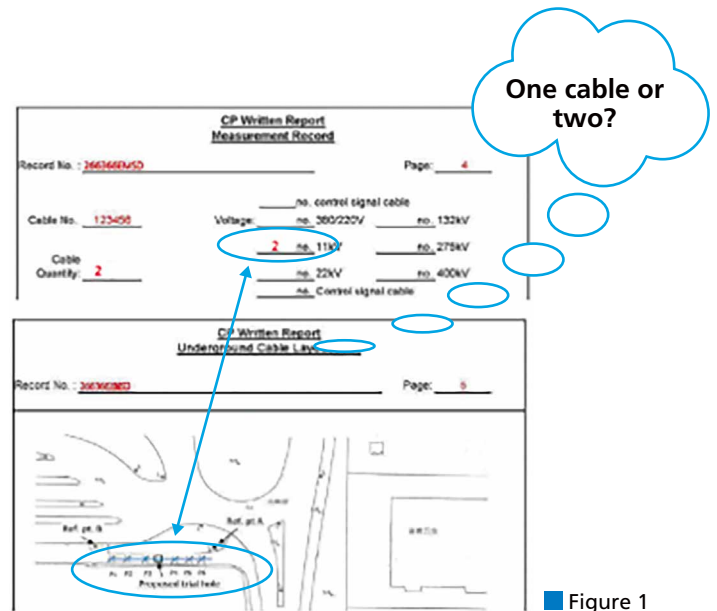

Figure 1
1. The number of underground cables detected and reported in the measurement record is different from the number of cables shown on the Underground Cable Layout Plan (see Figure 1).